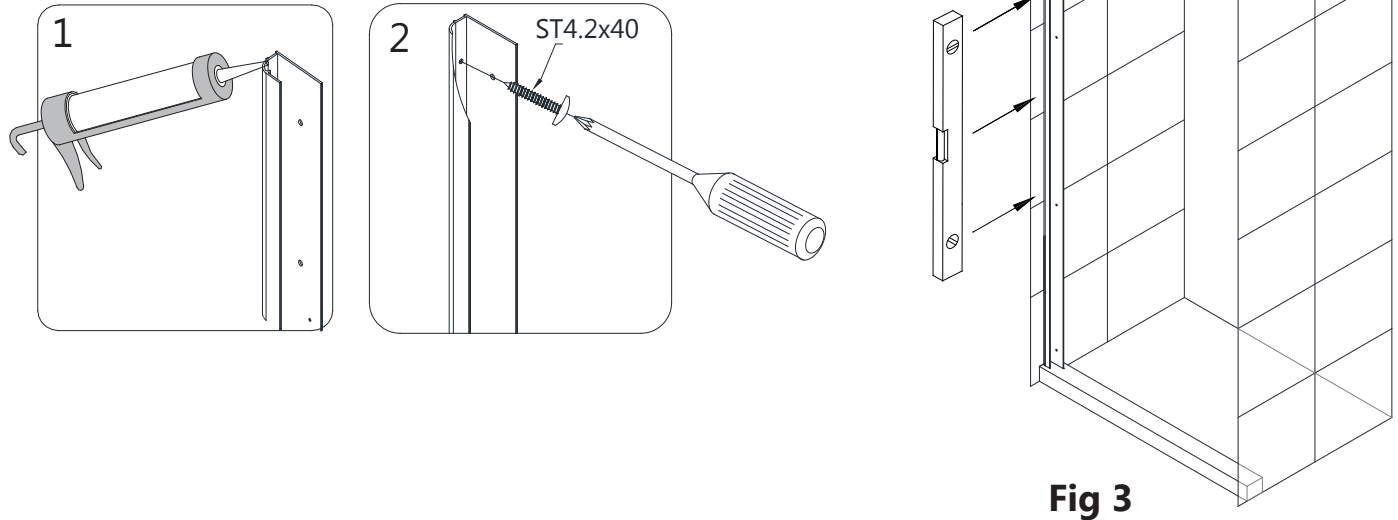

Fig 3
3. Apply silicone to the back of the **Wall Profile (hinge side) (#01)**. Attach the **Wall Profile (hinge side) (#01)** to the wall using the **ST4.2x 40 Truss Head Screws (#15)**. (**Fig 3**)